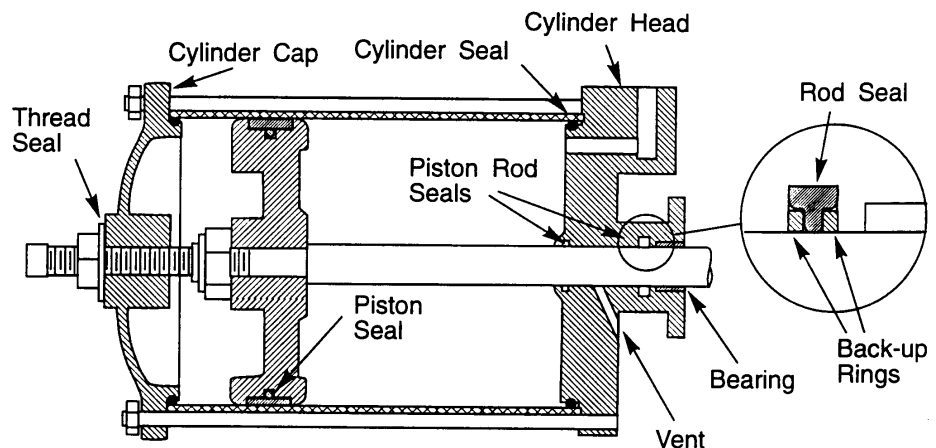

Figure 2 –Cylinder Parts Location
2. Carefully slide the cylinder head over the piston rod until it contacts the actuator housing. Fasten the cylinder head to the housing with the four screws removed earlier. See Figure 2.